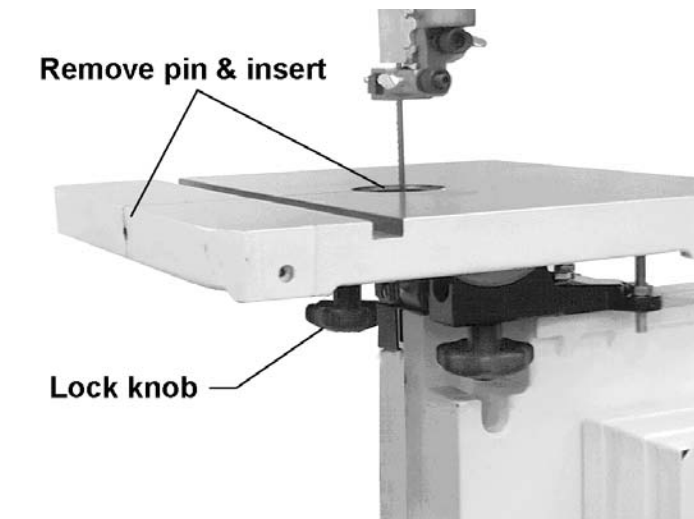

Figure 3
1. To mount the table, remove pin and insert from the table (Fig. 3).
2. Rotate the table so that the saw blade will slide through the slot in the table. Then orient the table so the screws will slide into the holes on the trunnion support bracket. Attach lock knobs to these screws (Fig. 3)